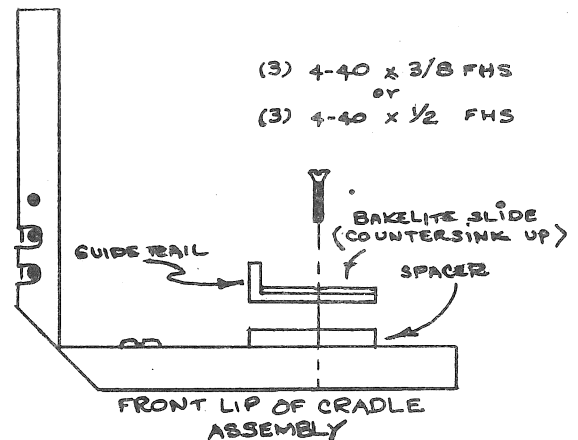
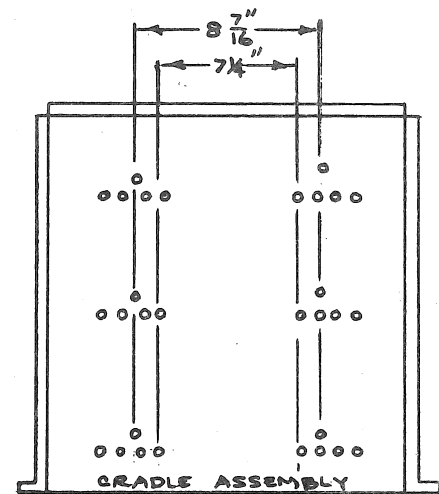

Fig. 1a
Fig. 1b
- ( ) 1a. Place the two guide rails and Bakelite slides (from kit) on the cradle assembly, with the rail lip on the outside (Fig. 1a). Use the threaded holes in the cradle spaced 8-7/16 inches apart (Fig. 1b). Secure the rails to the cradle assembly with the six 4-40 x 3/8 FHS screws from the kit. DO NOT USE the two spacers provided in the kit.
- ( ) 1b. Place the two guide rails, spacers, and Bakelite slides (from kit) on the cradle assembly, with the rail lip on the outside (Fig. 1a). Use the threaded holes in the cradle, spaced 7-1/4 inches apart (Fig. 1b). Secure the rails to the cradle assembly with the six 4-40 x 1/2 FHS screws from the kit.